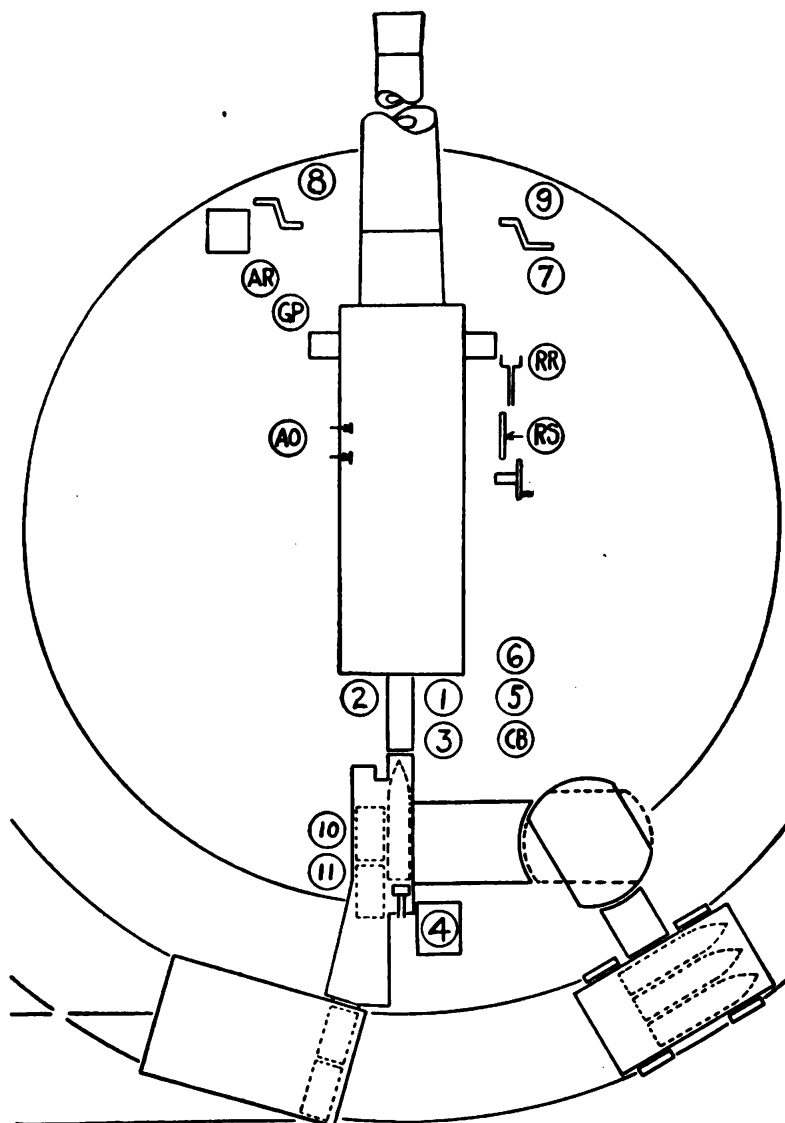

FIGURE 17.—Posts of gun squad for 16-inch gun and howitzer.
Q. What are the posts of the gun squad of the 16-inch gun and howitzer? A. See figure 17.